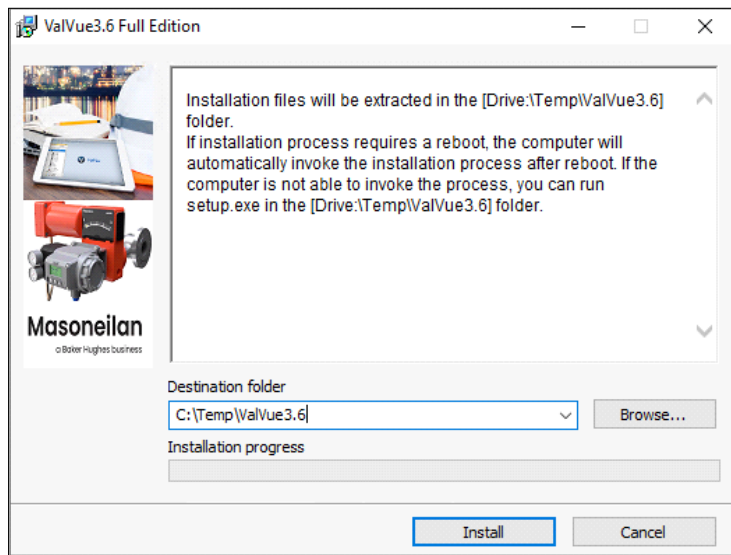

Figure 13 - Install Unzip
1. Double-click **ValVue 3.xFullEditionInstaller.exe** and Figure 13 appears.